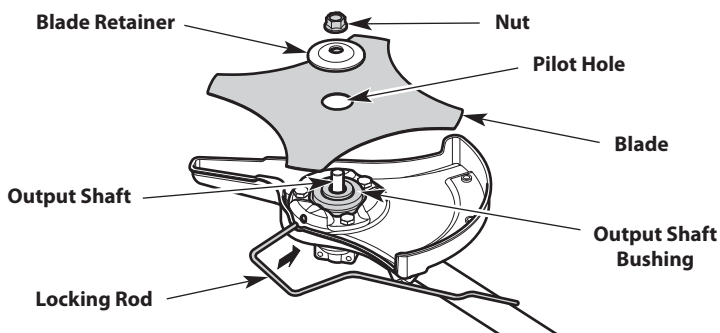

Fig. 17
4. While holding the locking rod in place, put the blade on the output shaft bushing (Fig. 17).
WARNING: To avoid serious personal injury, make sure that the pilot hole on the blade is sitting flat against the output shaft bushing (Fig. 17). The unit will vibrate and the blade may fly off if the blade is not centered.
5. Place the blade retainer on the output shaft with the flat surface against the blade (Fig. 17).
6. Screw the nut onto the output shaft (Fig. 17).